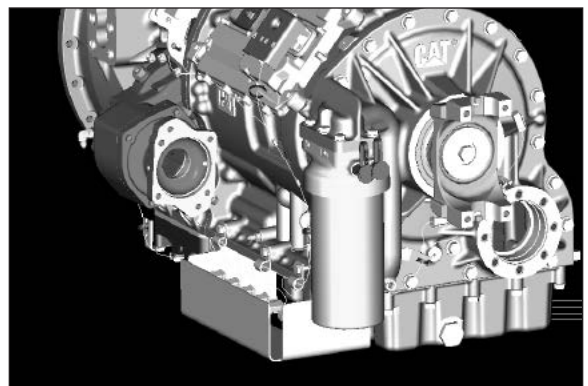

Figure 36
NOTE: There are two (2) high pressure ports available. Use the port located on the driver's side of the transmission unless there is an interference issue with a pump or driven object (**Fig. 36**).